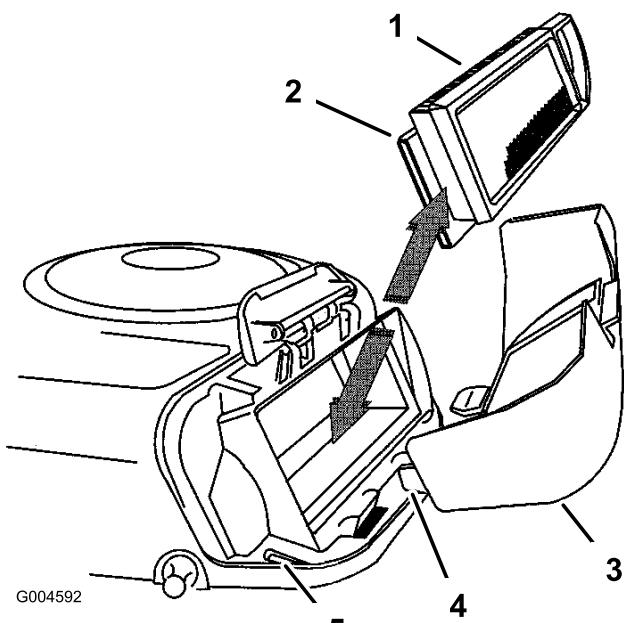

Figure 24
- Carefully slide the paper element and foam element from the blower housing (Figure 24).
- Hook the handle onto the cover and press down on the handle to lock the cover in place (Figure 24).